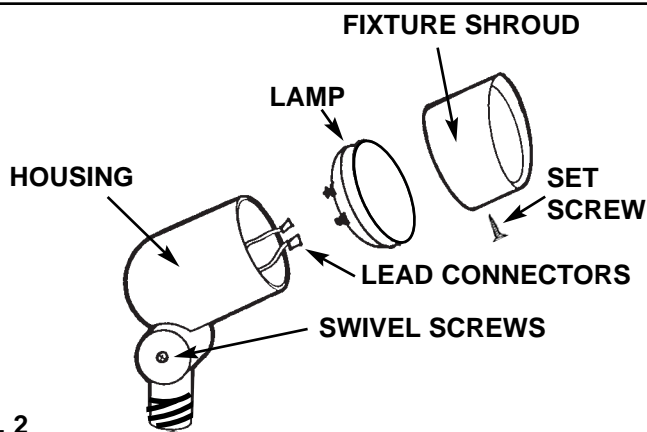

FIG. 2
9227 (Fig. 2 and 3)
2. Press lamp assembly into groove in housing and push shroud onto housing (FIG. 2).